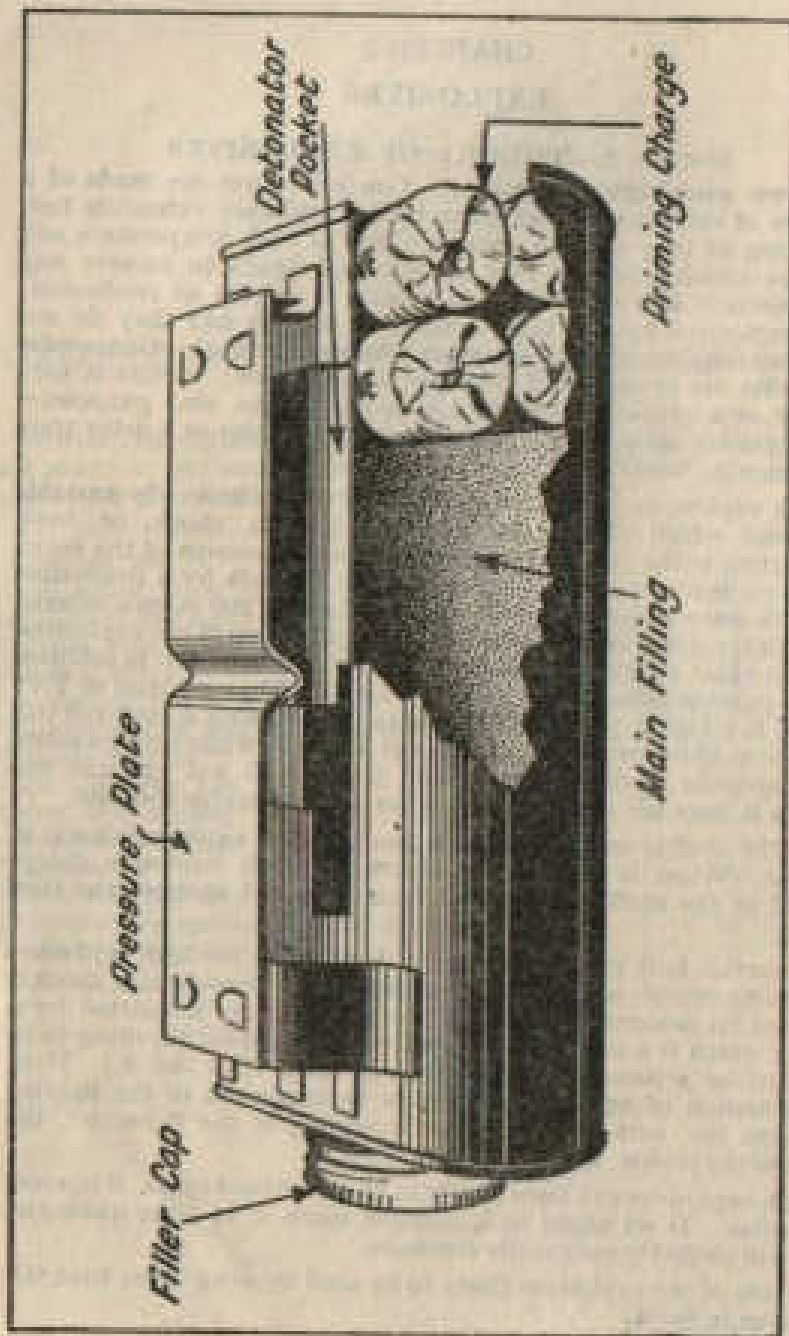

Fig 1. 75 grenade Mark 1, sectional view
1. No. 75 grenade (See Fig 1)
- (a) *Description*.—This is a screw cap metal container filled with 1½ lb of HE with a special primer inside the container at the opposite end to the screw cap (see Fig 1). On top of the container is a pressure plate with special pockets underneath for the detonator and igniter sets used when the grenade is employed as an anti-tank mine (see Military Training Pamphlet 40, Part I). Twelve grenades are packed in a tin box with 24 detonator and igniter assemblies.